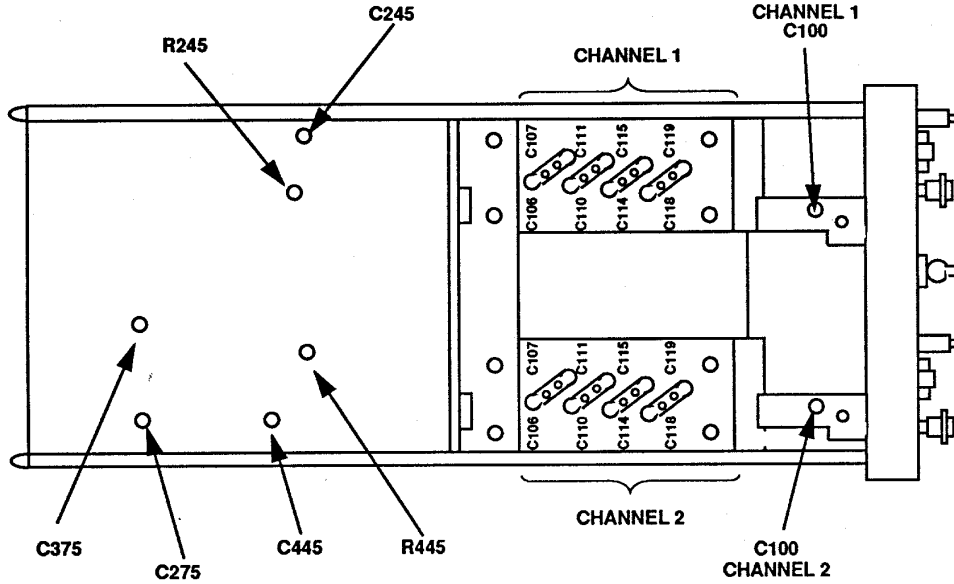
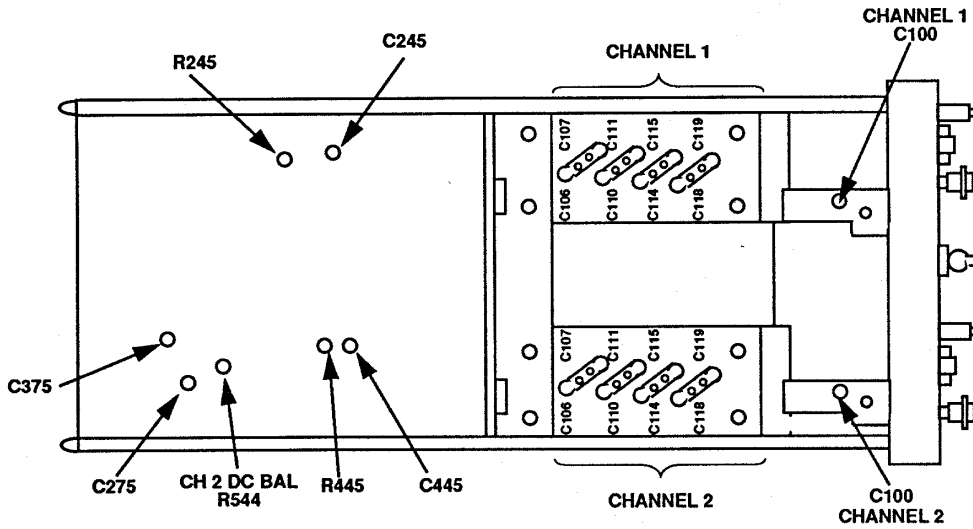

Figure 1. AM688/U (Tektronix, Type 7A18) - left side view.
Figure 2. Tektronix, Type 7A18A and 7A18A w/option 06 - left side view.
(22) Adjust standardizer for optimum square wave. If optimum square wave cannot be obtained, adjust **CHANNEL 1 C100 (CH 2 adjust C100 CHANNEL 2)** (fig. 1 or 2) to midrange and readjust standardizer for optimum square wave.
Use figure 1 for AM-6880/U (Tektronix, Type 7A18), and figure 2 for Tektronix, Type 7A18A and 7A18A w/option 06.
VOLTS/DIV switch settings	CH 1 and CH 2 adjustments (fig. 1 or 2) ¹
(2) Connect oscilloscope calibrator **CHAN 1** to TI **CH 1** using a 50 Ω feedthrough termination. Set oscilloscope output to **CHAN 1** using technique in (11) above.
(3) Set **DISPLAY MODE** switch to **CH 1** and **CH 1 VOLTS/DIV** switch to **10 mV**.
(4) Set oscilloscope calibrator to **EDGE**, and output to 60 mV at 1 kHz.
(5) Adjust **CH 1 POSITION**, oscilloscope, and time base controls as necessary to view waveform.
(6) Rotate oscilloscope calibrator knob located below **EDIT FIELD** pushbutton to obtain 6 divisions on oscilloscope display. If aberrations are not less than 0.24 divisions peak-to-peak, adjust **R245**, **C245**, and **C275** (**CH 2** adjust **R445**, **C445**, and **C375**) (fig. 1 or 2) for optimum square wave with aberrations of less than 0.24 divisions peak-to-peak (R).
(7) Repeat technique of (2) through (6) above for **CH 2**.